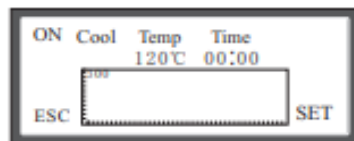

Fig. 13
⑤. Press “SET” Button to switch “Heat Preservation” to highlighted state, and press “PAGE DOWN” button to switch to “cooling”. Press “SET” Button again to switch “TEMPERATURE” to highlighted state. Press “PAGE UP” button and “PAGE DOWN” button to conduct the setting of “TEMPERATURE” as shown in Fig. 13. The heat preservation setting range shall be lower than the soldering temperature. “TIME” setting is not available under cooling mode and its default value is 00:00.